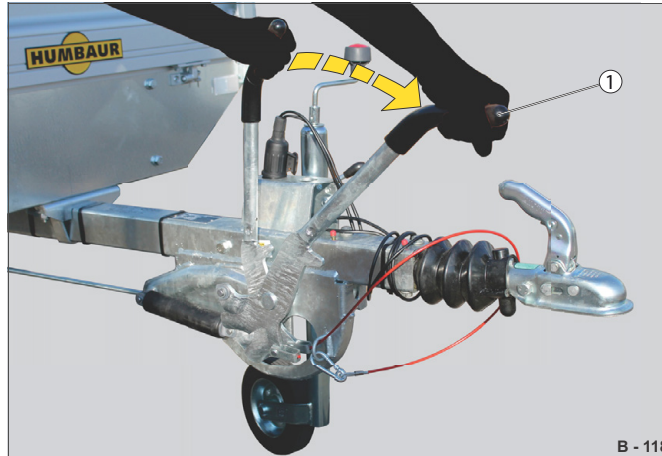

Fig. 87 Releasing hand brake
► Push the hand brake lever (Fig. 87 /1) beyond the ratchet point completely downwards towards the coupling.